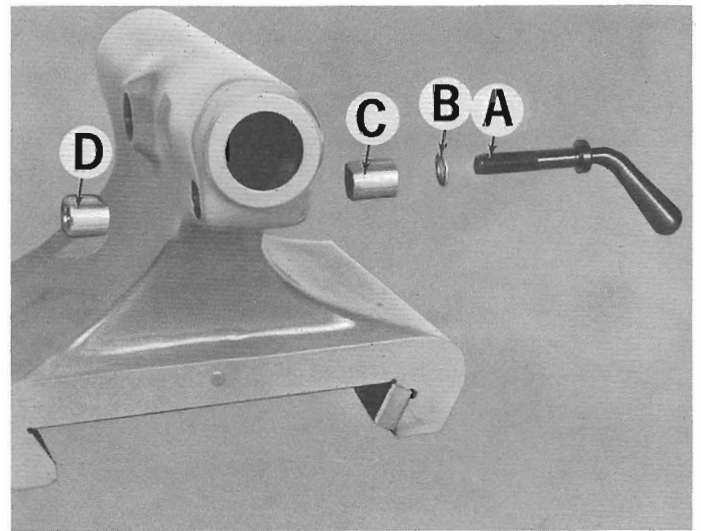
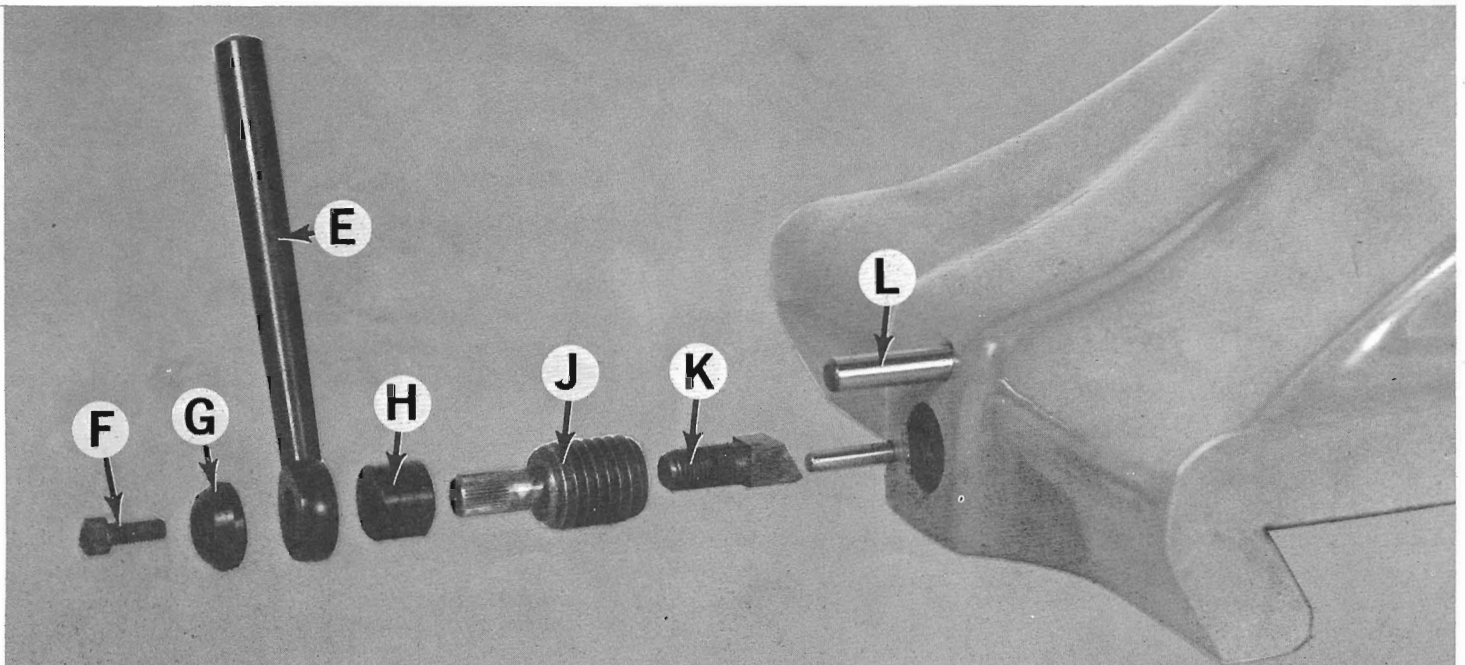

Figure 181 — Spindle Lock and Components
Figure 182 — Bed Locking Lever and Components
3. To remove locking lever "A", Figure 181, and components:
- (A). Turn lever "A", Figure 181, counterclockwise to remove shim "B" and binding nut sections "C" and "D".
4. To remove locking lever "E", Figure 182, and components:
- (A). Remove screw "F", Figure 182, washer "G", lever "E" and spacer "H".
- (B). Unscrew clamp bolt "J". Unscrew locking plug "K".
2. To replace spindle locking lever "A", Figure 181, and components:
- (A). Replace binding nut sections "C", Figure 181, and "D". **ANGLED FLATS ON NUT SECTIONS MUST BE PLACED AGAINST TAILSTOCK SPINDLE OR SERIOUS SCORING OF SPINDLE WILL RESULT.** Nut sections should be flush with casting when properly positioned.
- (B). Replace shim "B" on lever "A" and insert lever through nut section "C" and thread into nut section "D".
3. To replace locking lever "E", Figure 182, and components:
- (A). Replace tailstock on bedway.
- (B). Thread locking plug "K", Figure 182, into clamp bolt "J" to approximately 13/32" from square shoulder of plug "K" to clamp bolt "J".
- (C). Thread bolt "J" into casting and replace spacer "H".
- (D). Replace lever "E" and turn clockwise until plug "K" contacts bed plate — just tight enough to hold in position. Remove lever "E" and reposition lever on splined shaft approximately 3/8" from stop pin "L". Replace washer "G" and screw "F".